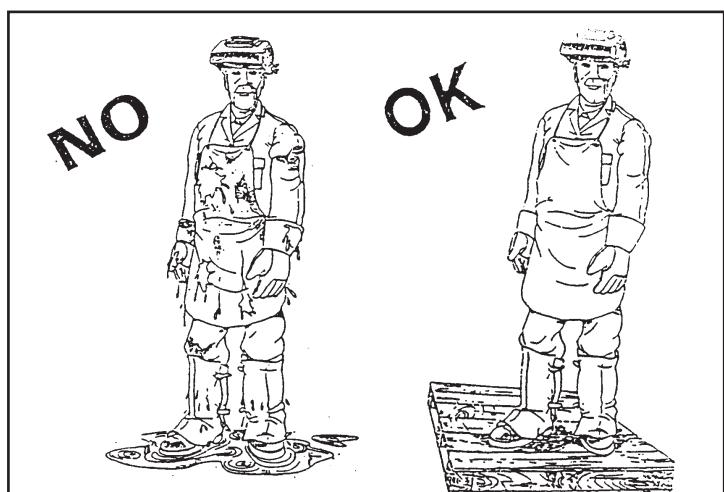

Figure 7
- Reinforcing personal protection devices, ground insulation and insulation between the piece to be welded and the operator (Fig. 7).